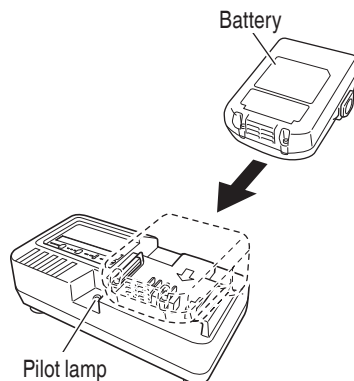

Fig. 6
2. Insert the battery to the battery charger. Insert the battery into the battery charger as shown in Fig. 6